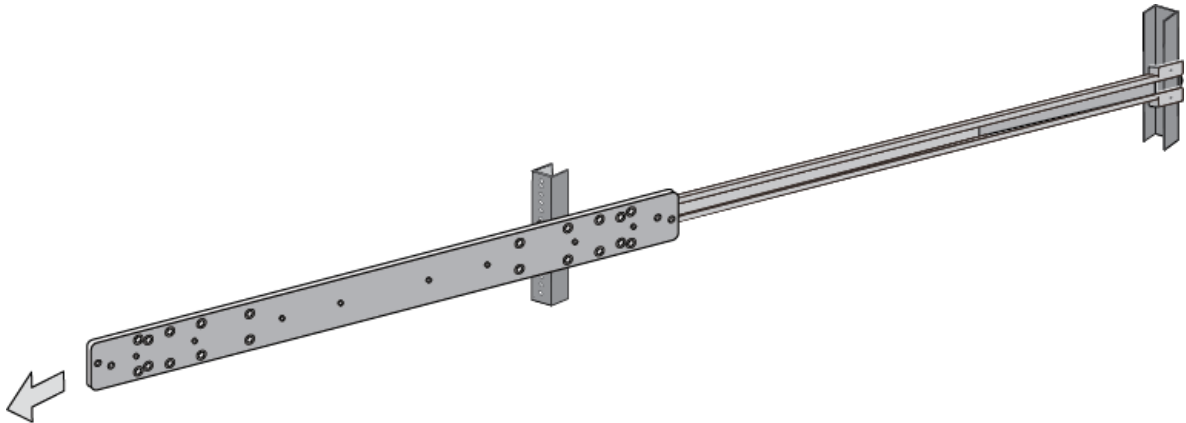

Figure 12. Removing the Inner Rail
- Remove the inner rail from the outer rail. Refer to Figure 12.